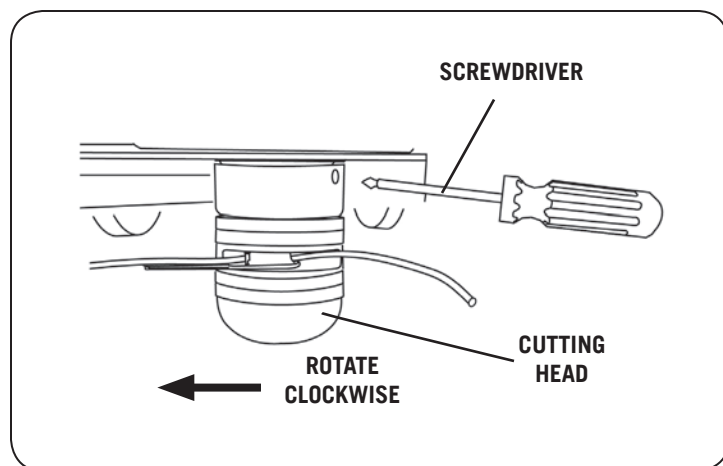

Figure 12
1. Align the hole in the anti-wrap canister with the hole in the internal housing at the location shown (see Figure 12).
5. Insert the screwdriver as shown in Figure 12 and tighten the assembly securely by turning the cutting head counterclockwise when looking down on the top of the frame.